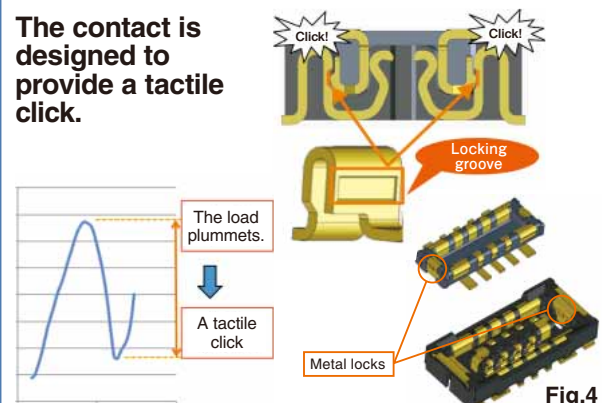

Fig.4
4. A tactile click ensures secure mating. (Fig.4)